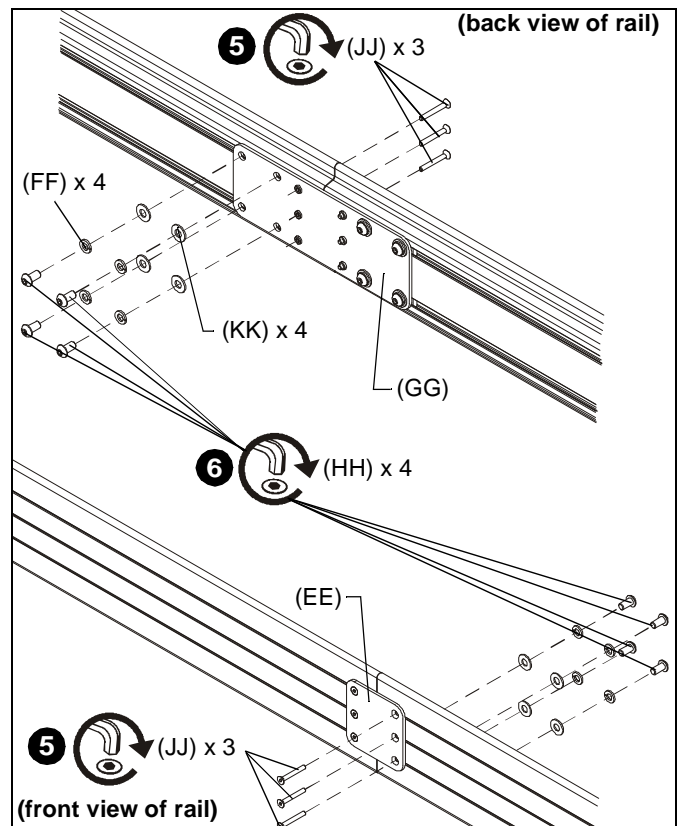

Figure 13
5. Secure connect bracket (EE) to front of second section of mounting rail (Q) using three 10-24 x 1-1/2" flat head cap screws (JJ) fastened through one side of connect bracket, mounting rail, tie bars (NN) and into connector plate (GG). (See Figure 13)
6. Additionally fasten connector plate (GG) using four 5/16 x 5/8" button head cap screws (HH), four 5/16" split washers (FF), and four friction washers (KK). (See Figure 13)